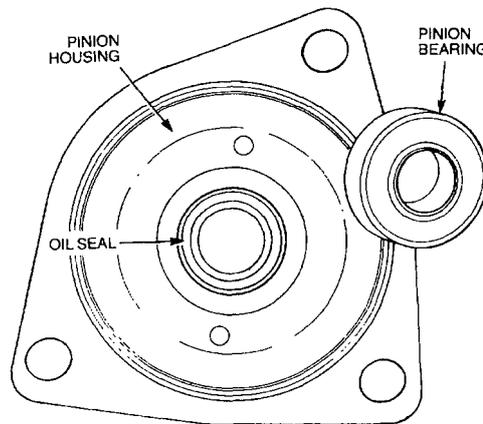

Figure 283 Removing the Pinion Bearing and Seal
- r. Remove the bearing from the pinion housing and remove the oil seal (Figure 283).